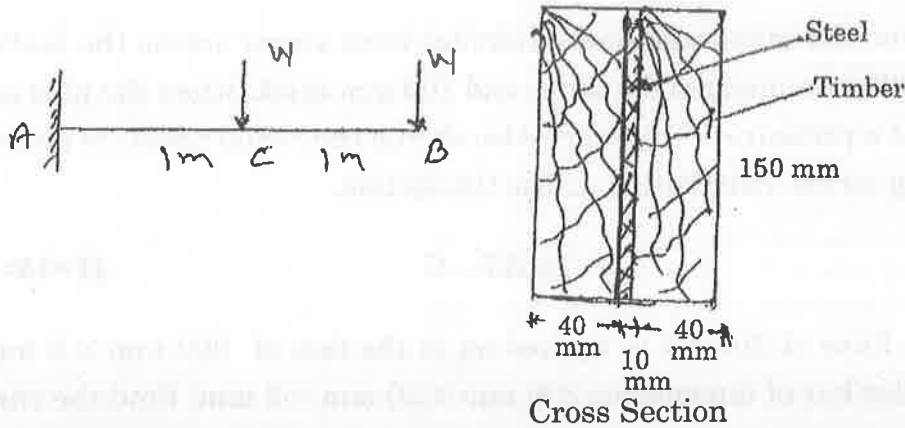

Fig. Q.12(b)(ii)
- ii) A cantilever beam is made up of a flitched section as shown in figure Q. 12 b (ii). If the allowable bending stresses in steel and timber are respectively  $165 \text{ N/mm}^2$  and  $8.5 \text{ N/mm}^2$  find the value of  $W$ .